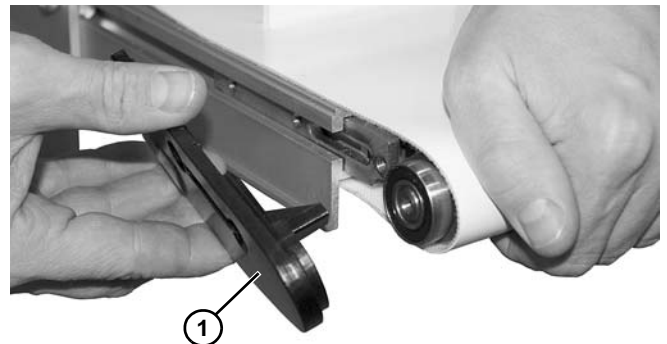

Figure 57
4. Remove the headplate (**Figure 57, item 1**) from the conveyor frame, holding spindle in place.